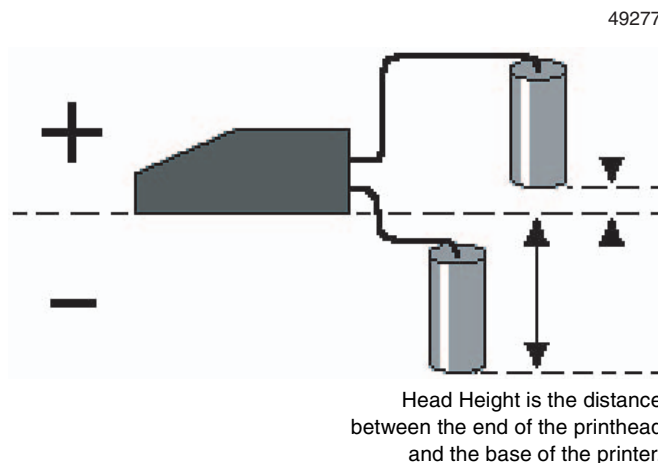

Figure 5-19 Head Height Example
4. At the **Head Height** setting, enter the distance between the end of the printhead and the base of the printer (as shown in Figure 5-19 below).